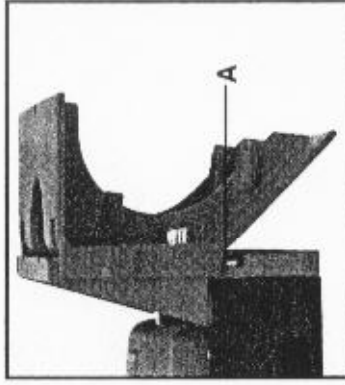

Fig. 12
2. Assemble the 45°/90° Fence in the 45° position as shown in Fig. 12 (see TO INSTALL 45°/90° FENCE section of this manual).
3. Position fence so that point (A) Fig. 12 (tangent point where 45° fence surface meets front of machine base), is a distance above the bottom surface of base equal to the material thickness plus $\frac{3}{16}$ ".